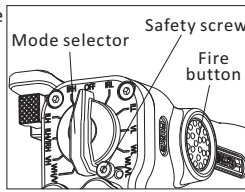

Fig 6
#### 4.4 Mode Selector (Fig 6)
**Operation:** (Fig 6)